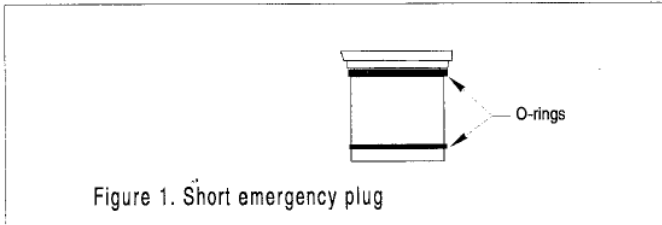

Figure 1. Short emergency plug
1. On the replacement, **short**, emergency plug, inspect and lubricate the O-rings with silicone grease or petroleum jelly (see Figure 1).